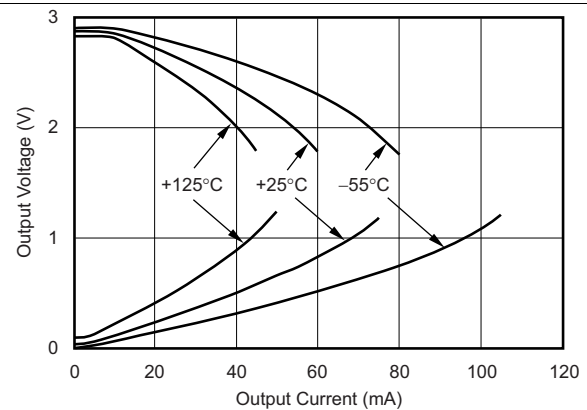
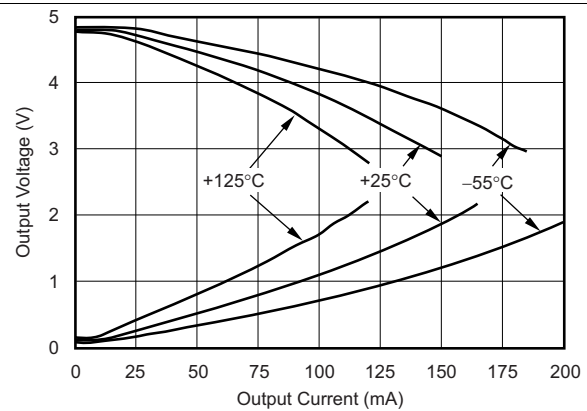

图 20. Output Voltage Swing vs Output Current for  $V_S = 3\text{ V}$
图 22. Output Voltage Swing vs Output Current for  $V_S = 5\text{ V}$
(1) See typical characteristic curves, *Output Voltage Swing vs Output Current* (图 20 and 图 22).
(2) Specified by design.
A class AB output stage with common-source transistors is used to achieve rail-to-rail output. For high-impedance loads ( $> 200 \Omega$ ), the output voltage swing is typically 100 mV from the supply rails. With  $10\text{-}\Omega$  loads, a useful output swing can be achieved while maintaining high open-loop gain. See the typical characteristic curves, *Output Voltage Swing vs Output Current* (图 20 and 图 22).
The TLV3544-Q1 output stage can supply a continuous output current of  $\pm 100$  mA and yet provide approximately 2.7 V of output swing on a 5-V supply, as shown in 图 30. For maximum reliability, TI does not recommend running a continuous DC current in excess of  $\pm 100$  mA. Refer to the typical characteristic curves, *Output Voltage Swing vs Output Current* (图 20 and 图 22). For supplying continuous output currents greater than  $\pm 100$  mA, the TLV3544-Q1 may be operated in parallel, as shown in 图 31.